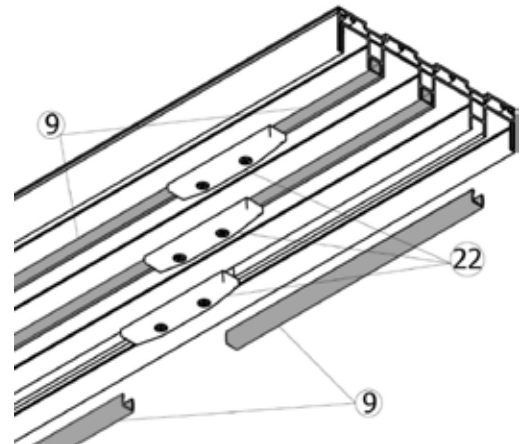

Figure 30
2. **Locate** the frame screw covers (Item 9) and cut them to the lengths determined in the previous step (Figure 30).
3. **Snap** the cover into the frame head, using a rubber mallet to secure the cover (Figure 30).